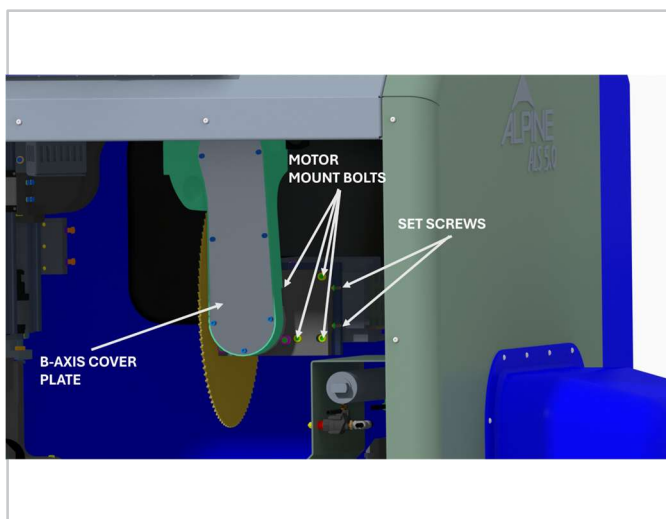

FIGURE 107 MOTOR BOLT LOCATIONS
Step 19 – Loosen the four bolts shown in Figure 107.